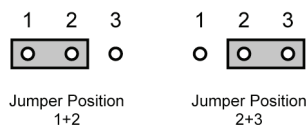
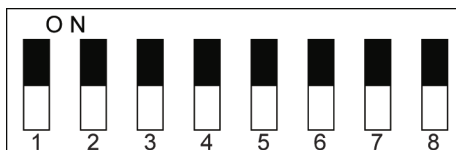

Figure 9. Jumper Positions
Figure 10. Jumper and Switch Locations
This section provides a brief summary of the jumpers of the ADC-8432. Refer to **Figure 9** for jumper and potentiometer locations and **Figure 10** for pin positions.
- **20dBFS** — Set **H1** into position 1+2 as shown in **Figure 9**. This is the default setting.
- **18dBFS** — Set **H1** into position 2+3 as shown in **Figure 9**.
- **20dBFS** — Set **H2** into position 1+2 as shown in **Figure 9**. This is the default setting.
- **18dBFS** — Set **H2** into position 2+3 as shown in **Figure 9**.